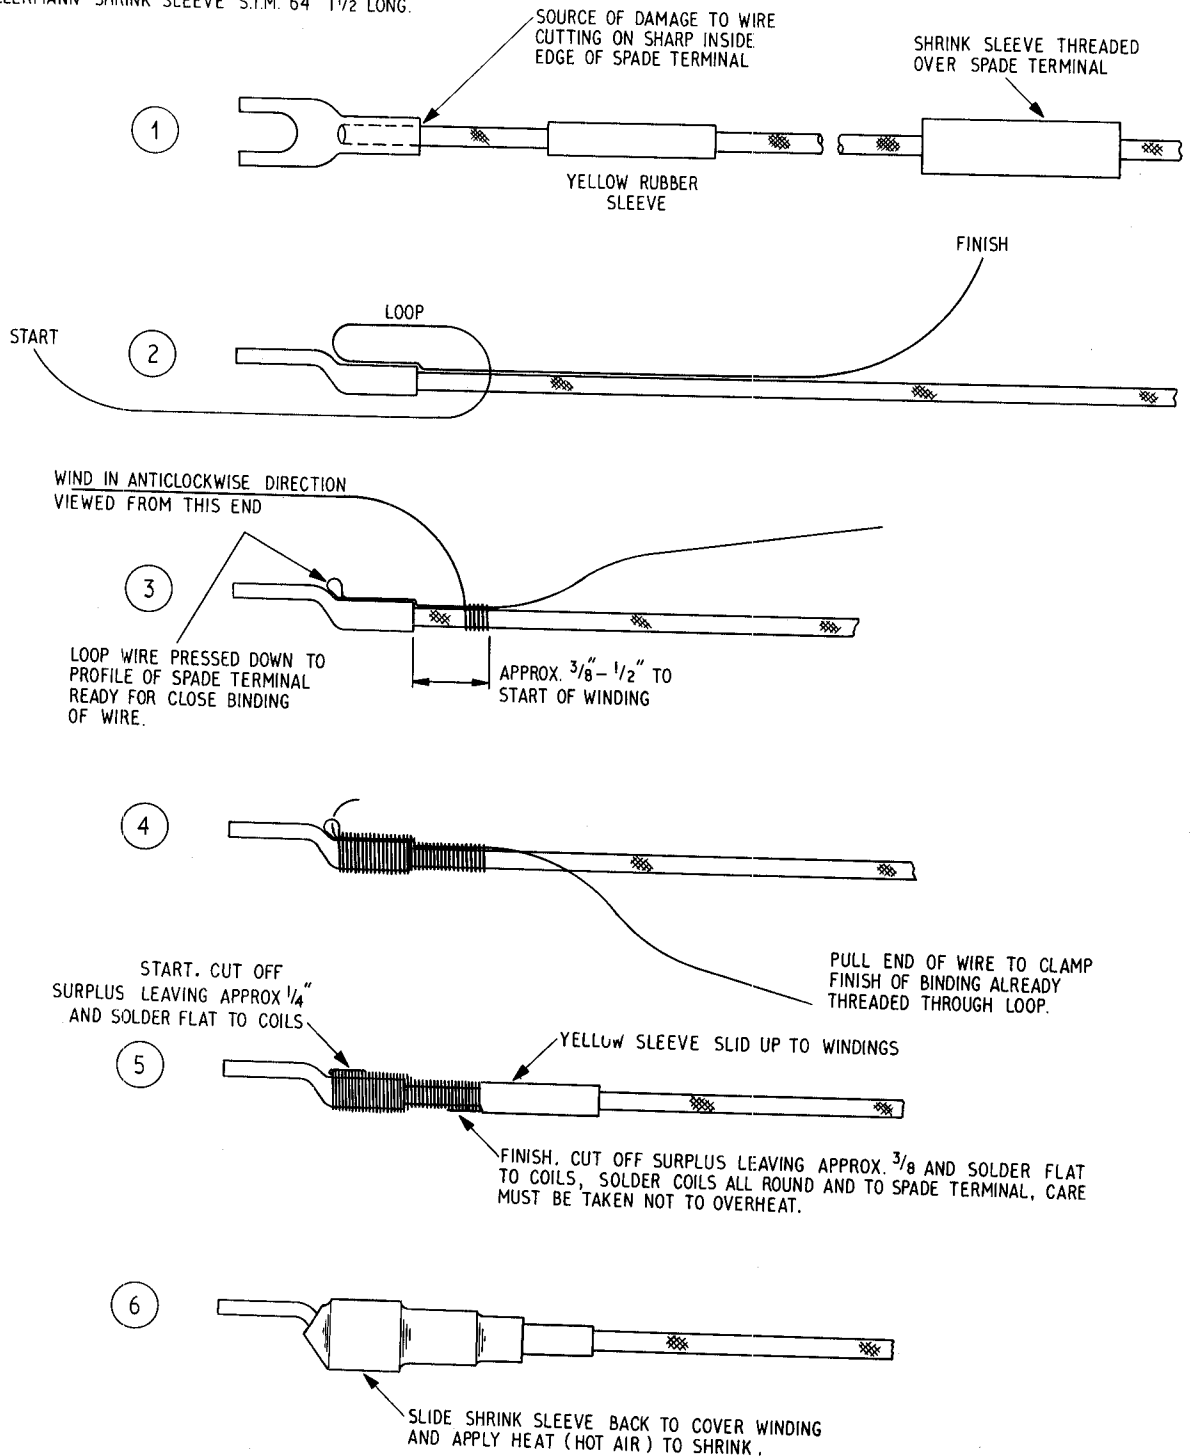

Fig 1 - Fitting of sleeving
2. In new production equipment the cabinet has been machined and the gasket (5820-99-108-3371) replaced by Toroidal sealing ring (5330-115-5138); and Rubber seal, special square section (5820-99-108-3359) replaced by Toroidal sealing ring (5330-99-115-5139). This modification is indicated by strike off action figure 1 on the modification record label fitted to the inside of the cabinet (5820-99-106-0418).
- a. Thread the shrink sleeve over the spade terminal as shown in Fig 1(1).
- b. Loop the 26 s.w.g. wire and place it along the junction of braid and spade terminal as shown in Fig 1(2).
- c. Press down the loop wire to the profile of spade terminal. Begin winding at approximately $3/8$ in. to $1/2$ in. from junction as shown in Fig 1(3).
- d. Push the start end through the loop once the winding is completed and pull the finish end of the wire to clamp the start end as shown in Fig 1(4).
- e. Cut the start and finish ends to about $1/4$ in. and lay back flat along the winding. Solder the windings. Slide the yellow sleeving up to the winding as shown in Fig 1(5).
- f. Slide the shrink sleeve to cover the whole winding and apply heat (hot air) to shrink. The finished spliced end to be as shown in Fig 1(6).